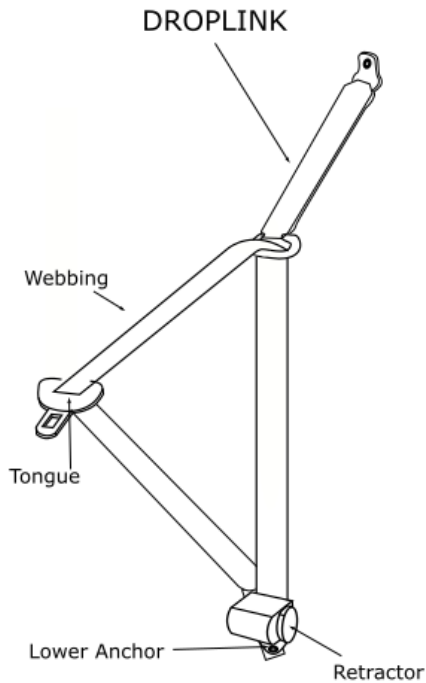

Figure 6.1 Droplink
Figure 6.1 and 6.2 shows a **droplink**.
- Figure 6.1 shows the droplink in an ON-pillar assembly. Note that the sash guide must be cut before installing the droplink.